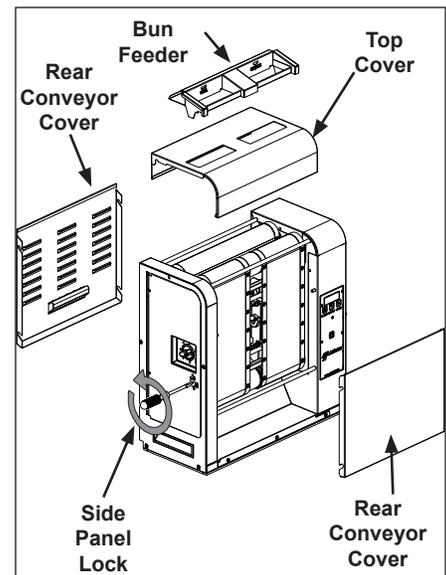

Figure 10. Removing Components
2. Wearing Heat-resistant gloves, Remove the bun feeder, top cover, and the front and rear conveyor covers (Figure 10).
4. Unlock the lock on the left side panel with a flathead screwdriver and open the panel (Figure 10).
8. Close the side panel and lock the lock using a flathead screwdriver on the side panel (Figure 10).
9. Re-install the front and rear conveyor covers, top cover, and bun feeder (Figure 10).